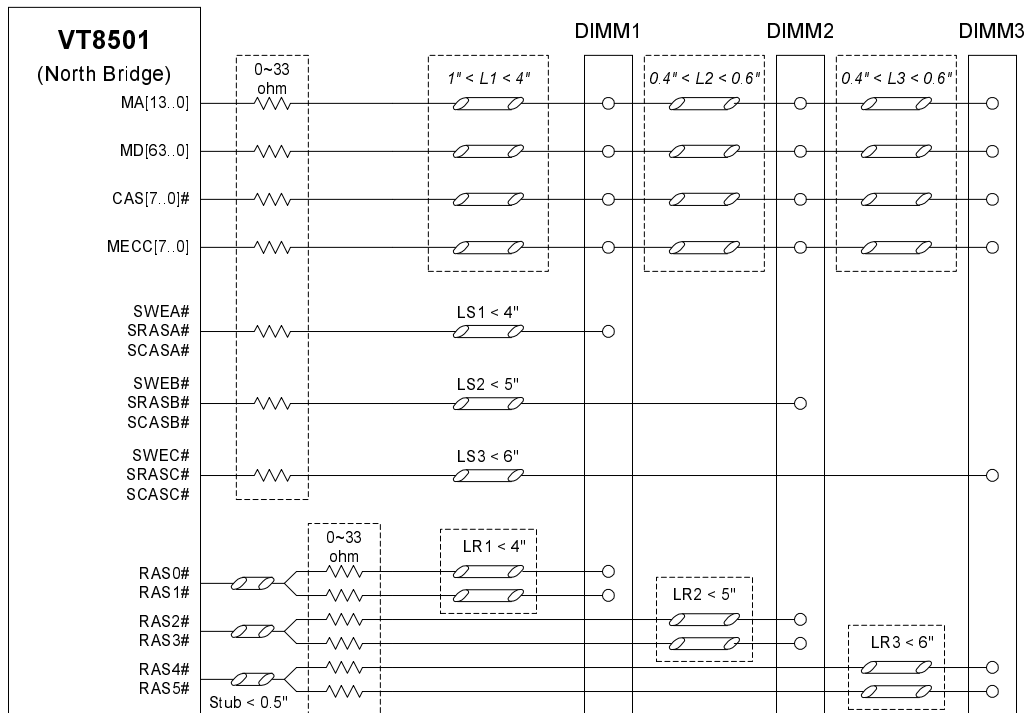

Figure 2-42. Daisy Chain Ordering Routings of Three-DRAM DIMM Slots
The maximum DRAM installation is three DIMM slots. Two layout examples (Daisy Chain Ordering and Star Style) for all DRAM buses and control signals between the Apollo MVP4 North Bridge and the three DRAM DIMM slots is shown in Figure 2-42 and 2-43. The requirement to run at a 100 MHz frequency is to choose an SDRAM module with an access time less than 8 ns (i.e., "PC100"). Routing recommendations are listed below.
- For daisy chain routing, traces of MA[13..0], MD[63..0], CAS[7..0]# and MECC[7..0] should be connected to DIMM modules in order of DIMM1, DIMM2, and DIMM3 (see figure 2-42). It is recommended to make both segments L2 and L3 as short as possible.